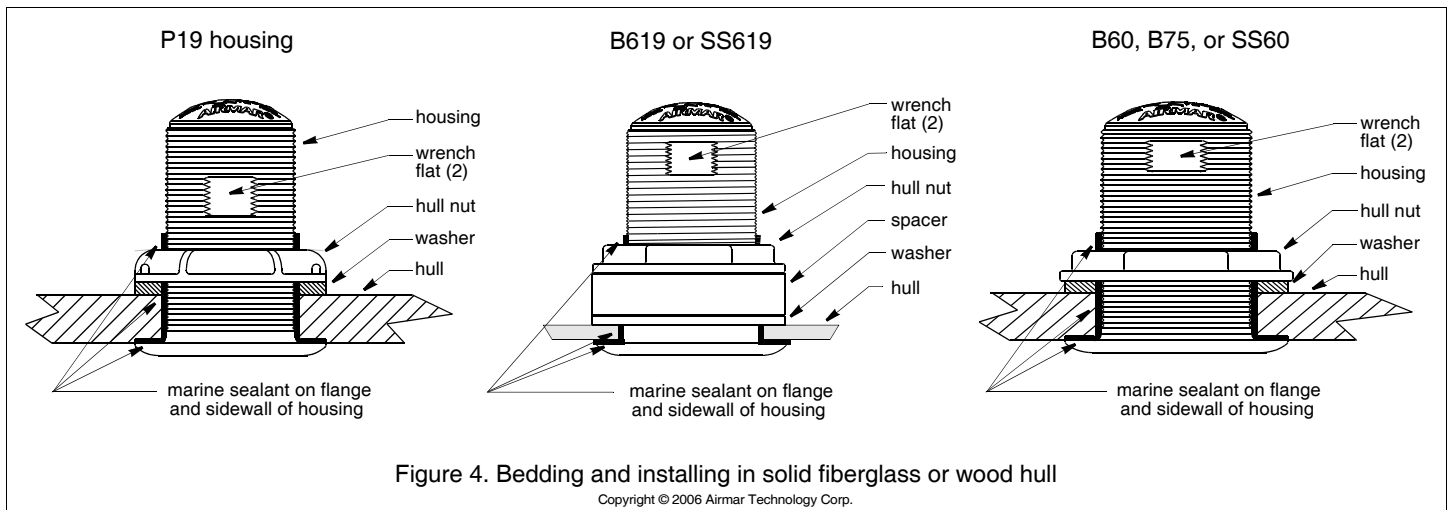

Figure 4. Bedding and installing in solid fiberglass or wood hull
Apply a 2 mm (1/16") thick layer of marine sealant around the flange of the housing that contacts the hull and up the sidewall of the housing (see Figure 4 or 5). The sealant must extend 6 mm (1/4") higher than the combined thickness of the hull, washer(s), and the hull nut. This will ensure there is marine sealant in the threads to seal the hull and to hold the hull nut securely in place.
2. Slide the washer onto the housing (see Figure 4 or 5).